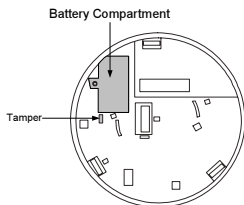

Figure 8: Batteries Compartment/Tamper
- ◆ Dead air spaces are often at the top of a peaked roof, or in the corners between ceilings and walls. Dead air may prevent smoke from reaching a detector. See Figures 8 and 9 for recommended mounting locations.